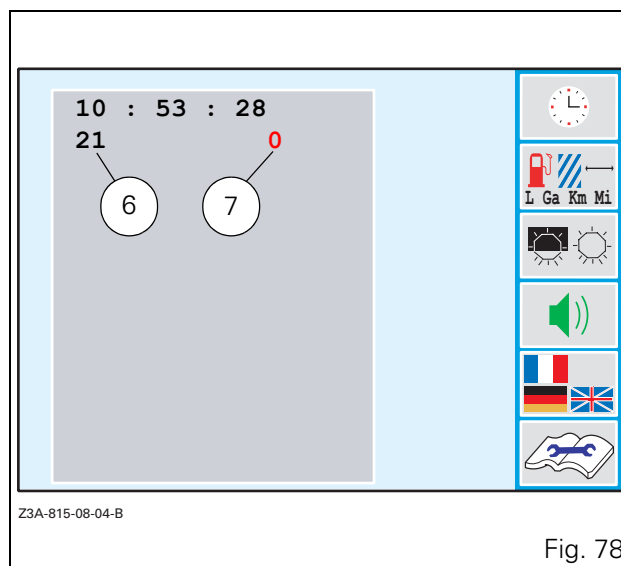

Fig. 78
- Validate the hours by pressing the encoder (the hours are displayed in black (6) and the minutes switch to red (7 Fig. 78)).